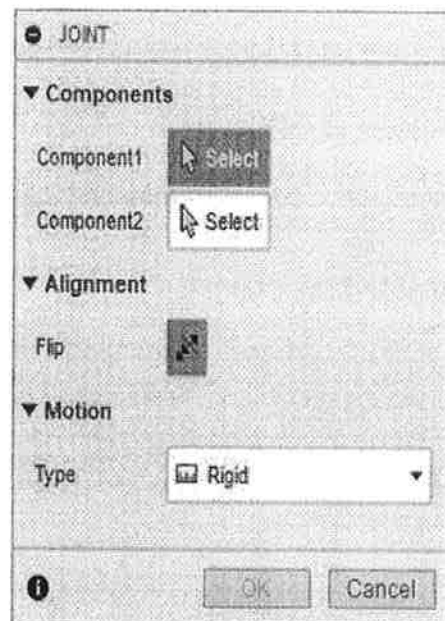

Figure 14–12
1. In the ASSEMBLE panel, click  (Joint). The JOINT palette opens, as shown in Figure 14–12.